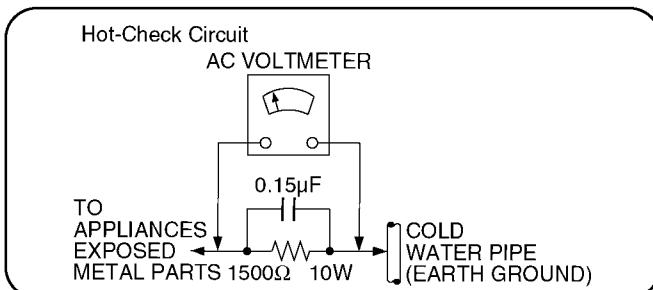

Figure 1
(See Figure 1.)
2. Connect a $1.5k\Omega$, 10 watts resistor, in parallel with a $0.15\mu F$ capacitors, between each exposed metallic part on the set and a good earth ground such as a water pipe, as shown in Figure 1.